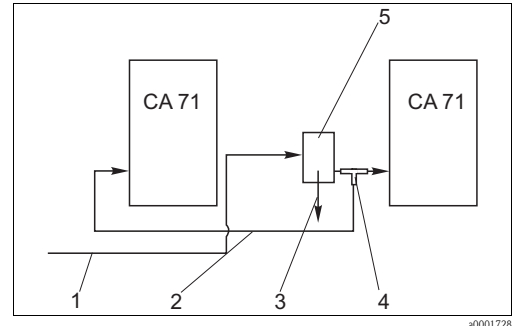

Fig. 13: Installation example
- Distance between the analysers as short as possible: sampling line between T-piece and the second analyser (→ Fig. 13, item 2) shorter than 1.5 m